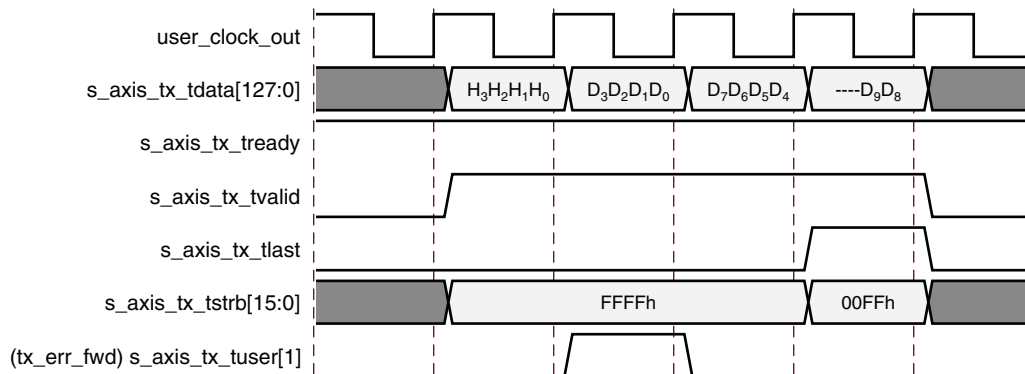

Figure 3-39: Packet Data Poisoning on the Transmit Interface
- Assert `(tx_err_fwd) s_axis_tx_tuser[1]` for at least one valid data transfer cycle any time during the packet transmission, as shown in Figure 3-39. This causes the core to set EP = 1 in the TLP header when it transmits the packet onto the PCI Express fabric. This mechanism can be used if the User Application does not know whether a packet could be poisoned at the start of packet transmission. Use of `tx_err_fwd` is not supported for packets when `(tx_str) s_axis_tx_tuser[2]` is asserted (streamed transmit packets). In streaming mode, users can optionally discontinue the packet if it becomes corrupted. See Discontinuing Transmission of Transaction by Source, page 56 for details on discontinuing packets.